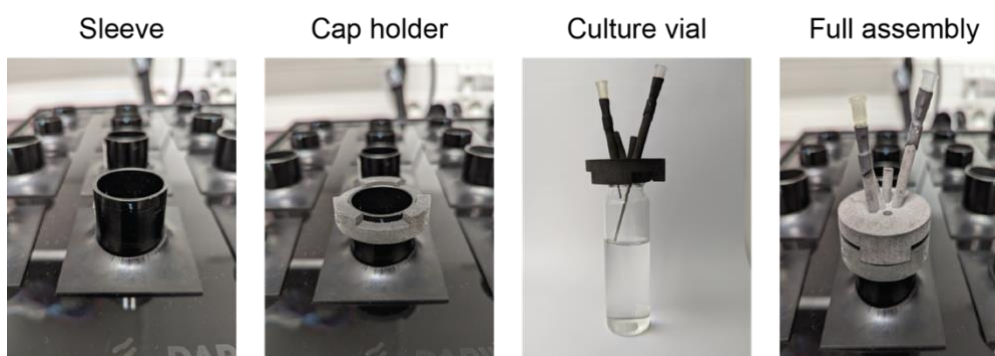

Figure 2. Assembly of the culture vials.
8. Screw the assembled cap on a clean and dry glass vial (Fig. 2).
6. Place a vial inside the sleeve and fit the vial cap to the cap holder (Fig. 2).